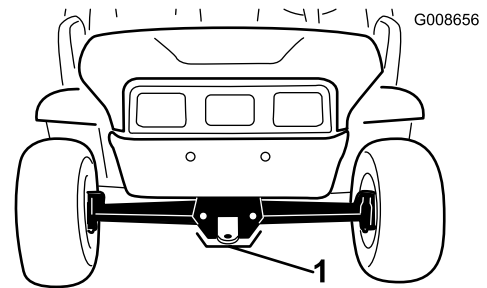

Figure 25
- The lifting point at the front of the machine is at the front of the frame behind the towing tongue (Figure 25).